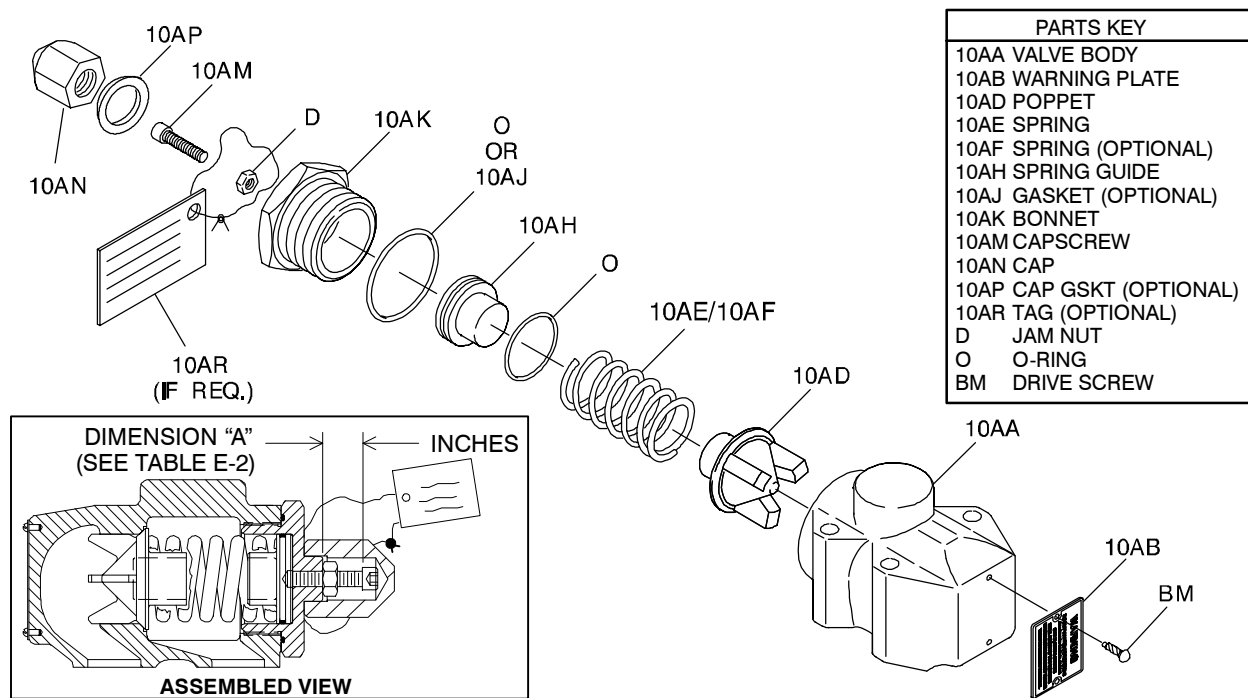

Figure E-7. Pressure Relief Valve Assembly
(Figure E-7)
Install the jam nut (D) on the adjustment capscrew (10AM), and thread the capscrew into the bonnet until the desired height ("A", Figure E-7) is reached. Refer to the separate Parts List accompanying your pump, and determine the specific hydraulic size (D, G or J). See Table E-2 and adjust the capscrew (10AM) to the proper "A" dimension for desired cracking pressure.